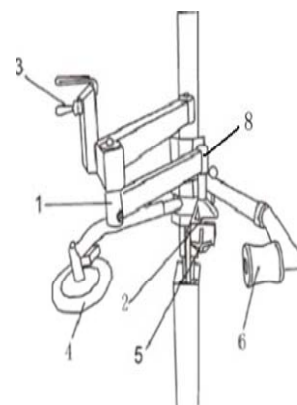
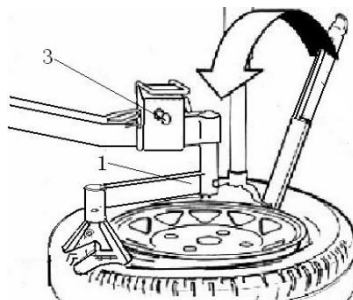

Fig 11
Fig 16
- 4) Install the tire pressing rotating arm 1, tire pressing head(upper) 2, rise-fall switch handle 3, tire lifting roller 4, tire pressing head(bottom) 5, tire pressing roller 6, tire pressing arm 8 separately on the help arm.(Fig 11)
Fig 11 shows functional parts of the 007B device:
The rise-fall switch handle (3, Fig 11) is to adjust the tire pressing rotating arm (1, Fig 11) when mounting and demounting tires.
1) Lift the rise-fall switch handle(3, Fig 11) up, the tire pressing rotating arm (1, Fig 11) should rise. Down the rise-fall switch handle (3, Fig 11), the tire pressing rotating arm (1, Fig 11) should lower.
3) Operate the rise-fall switch handle (3, Fig 11) to adjust the tire pressing roller (6, Fig 11), make it get touch with the tire's arc to facilitate the mounting and demounting operations.
- c- Raise the auxiliary arm, mount the tire pressing head (upper) on the tire pressing arm (8 Fig 11) and rotate it to the opposite side of the mounting head. Press the tire with the switch handle to create enough space; hang the bead on the demount/mount head with the help of the lifting lever(Fig.16).